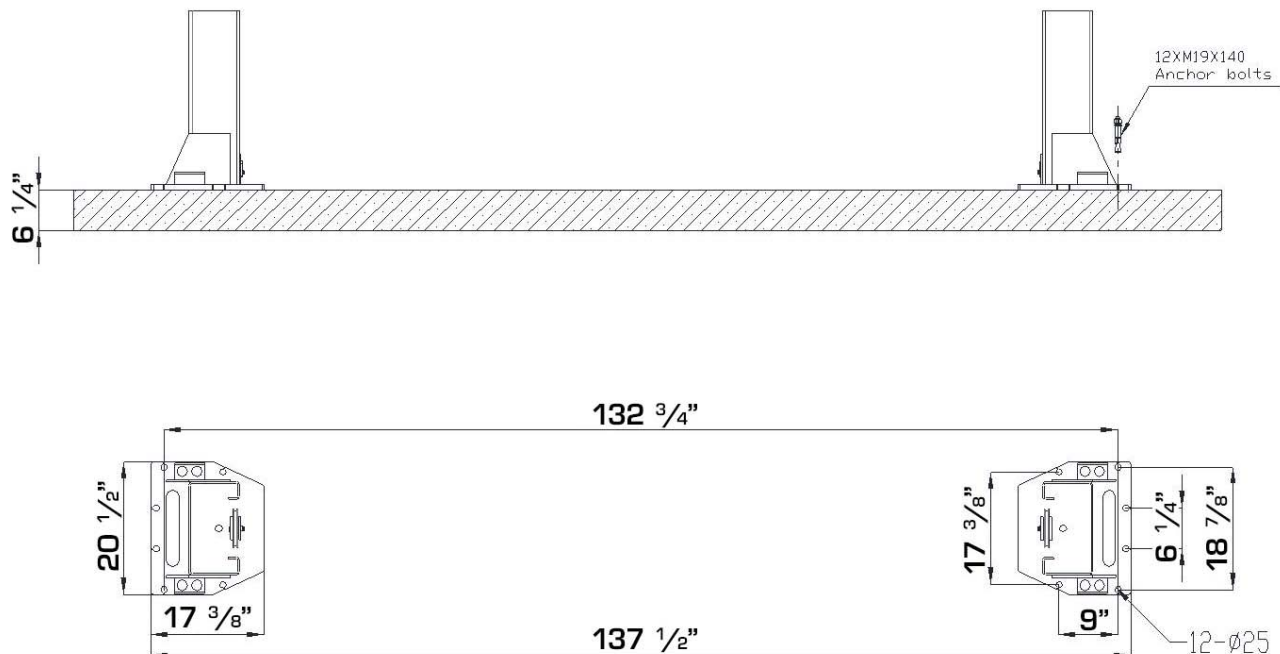

Figure 8 – Floor Plan
- Now locate the lift according to the floor plan the figure 8, use a carpenters chalk line to layout a grid for the column locations.